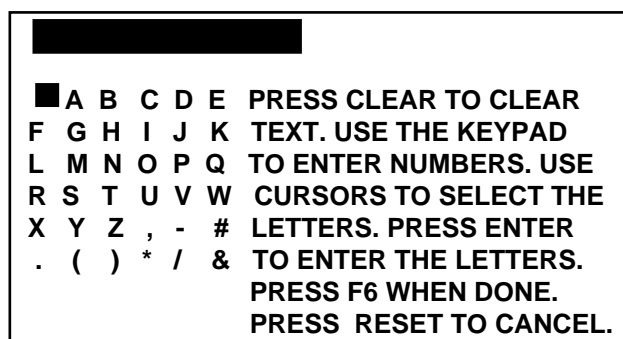

Figure 5-28. Overlay for entering memo box text
2. Enter text into the memo box, by pressing **F4** for the first line, and **F5** for the second line. A screen overlay (Figure 5-28) appears that enables you to enter fifteen characters of numbers and alphabetic text for each line. When you complete each line, press **F6** to accept it.